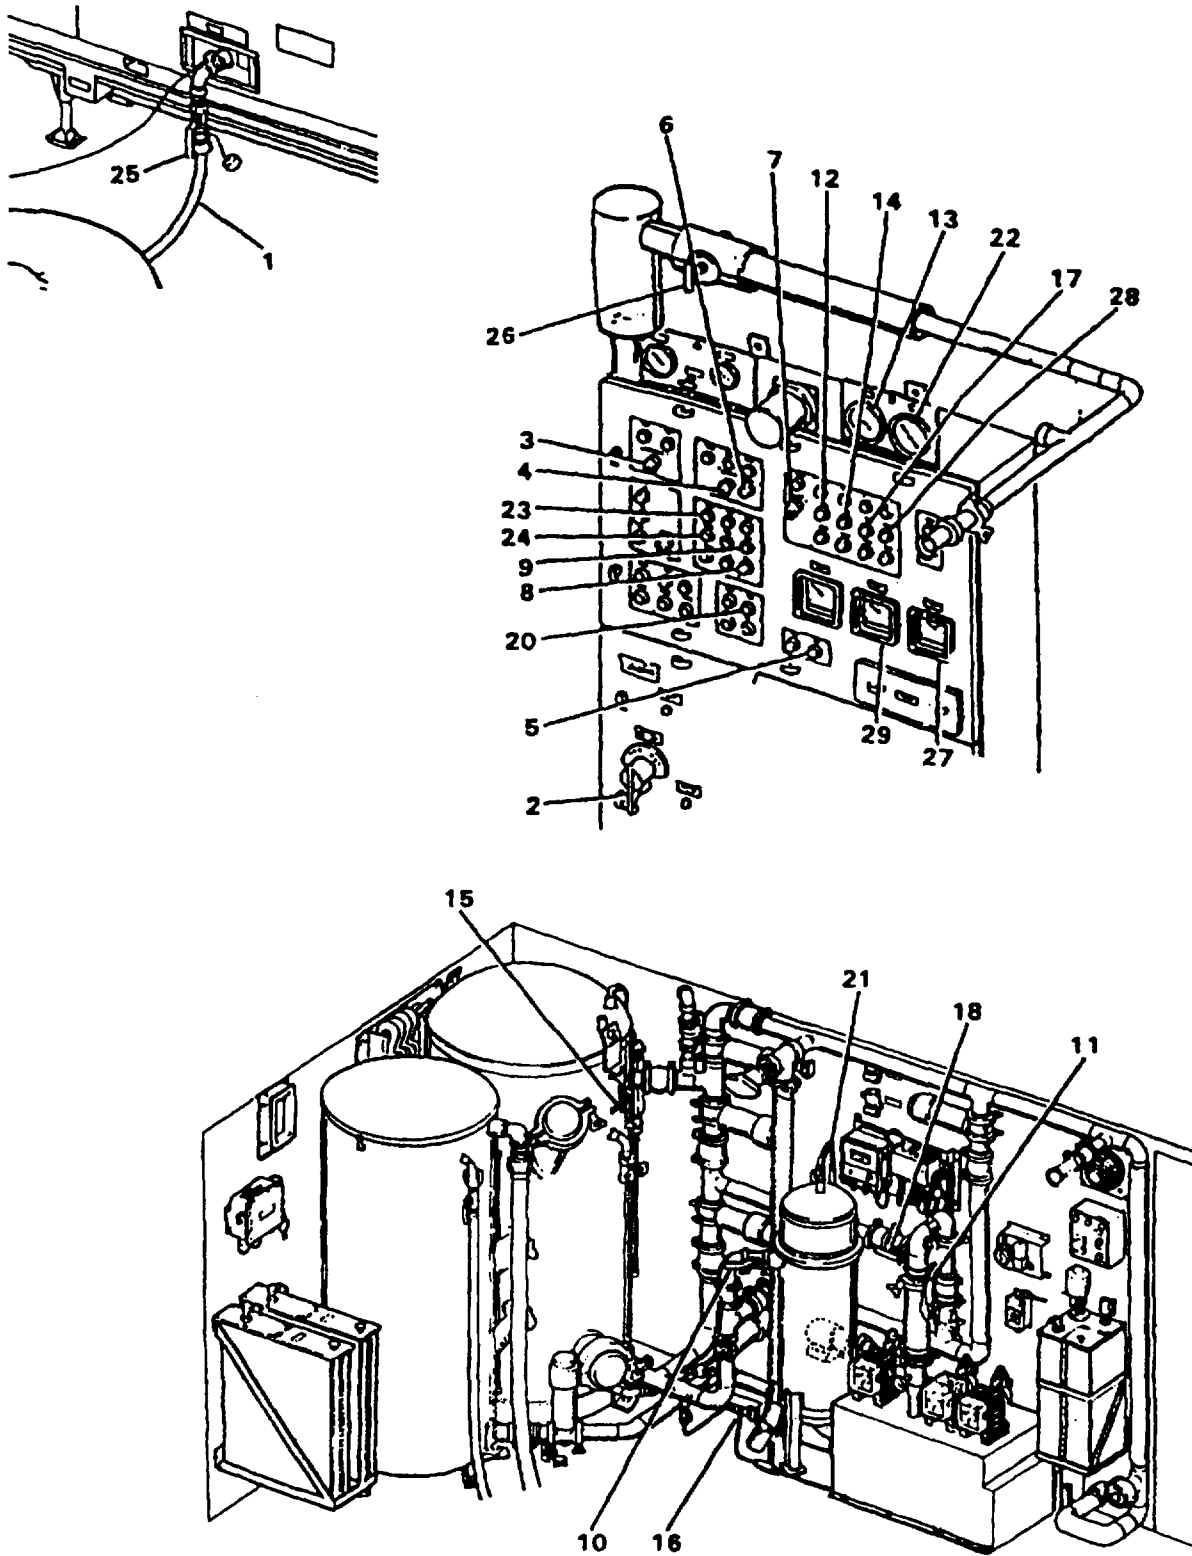

Figure 2-49. Routine Start-Up From Stand-By Shutdown
- h. Turn MAIN CIRCUIT BREAKER (8) to OFF.
**2-19. ROUTINE START-UP FROM STAND-BY SHUTDOWN.** Use this procedure to restart the ROWPU after it has been shut down in the stand-by condition (Figure 2-49).